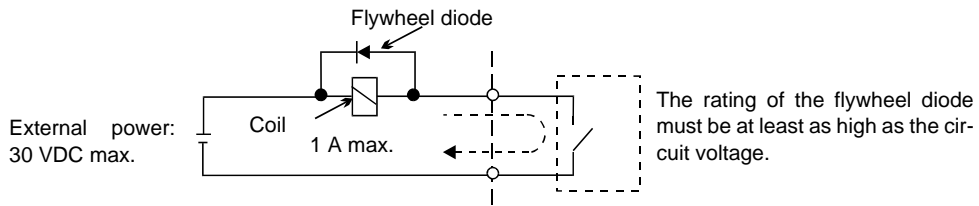

Fig 2.18 Flywheel Diode Connection
- *3. When driving a reactive load, such as a relay coil with DC power supply, always insert a flywheel diode as shown in Fig 2.18